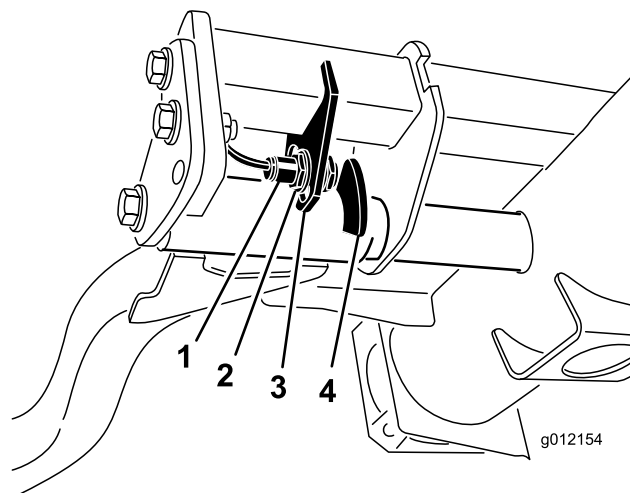

Figure 35
2. The lift-arm switch is located underneath the hydraulic tank behind the front, right lift arm (Figure 35).
turnaround height or move the switch up to decrease the lift-arm turnaround height (Figure 35).